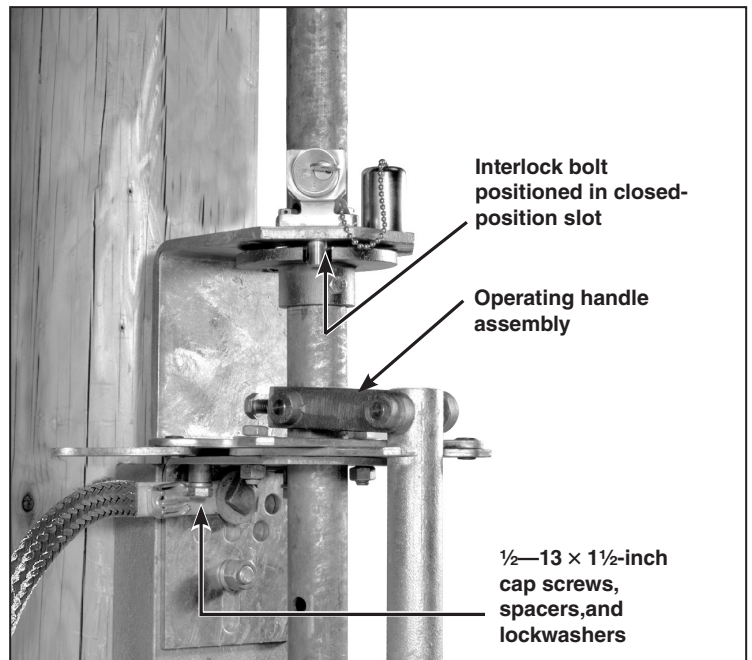

Figure 27. Attach the foot-bearing assembly.
STEP 23. Bolt the foot-bearing assembly to the pole at the position shown on the erection drawing. Use one of the mounting bolts to attach one end of the grounding strap (the end with the grounding connector attached) to the foot-bearing assembly. The grounding recommendations may differ from the standard operating and safety procedures of certain electric utility companies. Where a discrepancy exists, the operating procedures of the electric utility apply. See Figure 27.